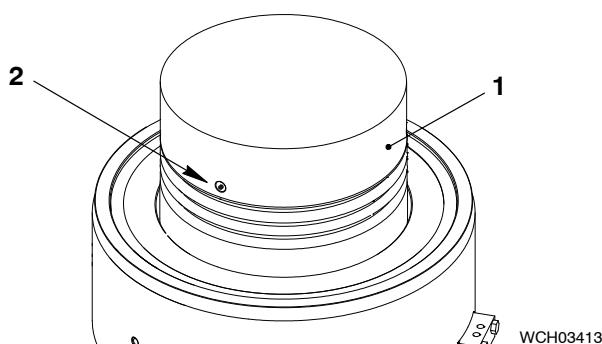

Fig. 7
- 16) Operate the turning gear to move the piston (1, Fig. 7) to TDC.
- 17) Clean the three holes (2) and the top part of the piston crown (1).